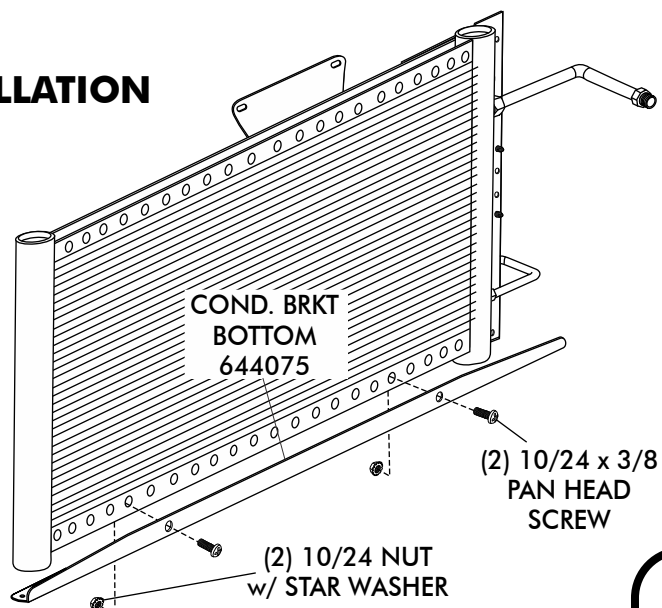

FIGURE 5
- ☐ INSTALL BOTTOM MOUNTING BRACKET ON TO CONDENSER USING (2) 10/24 x 3/8 PAN HEAD SCREWS AND (2) 10/24 NUTS WITH STAR WASHERS. SEE FIGURE 5 BELOW. **NOTE: BRACKET MOUNT THROUGH THE 5TH HOLE FROM THE LEFT SIDE OF THE CONDENSER.**